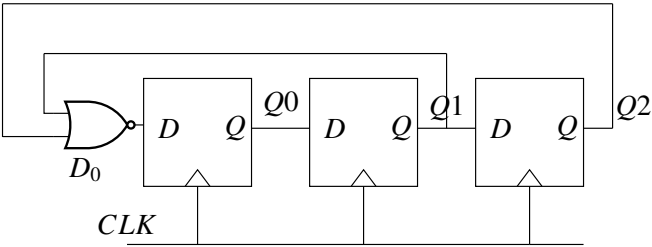

Fig. 5.4
- 4. The digital circuit shown in Fig. 5.4